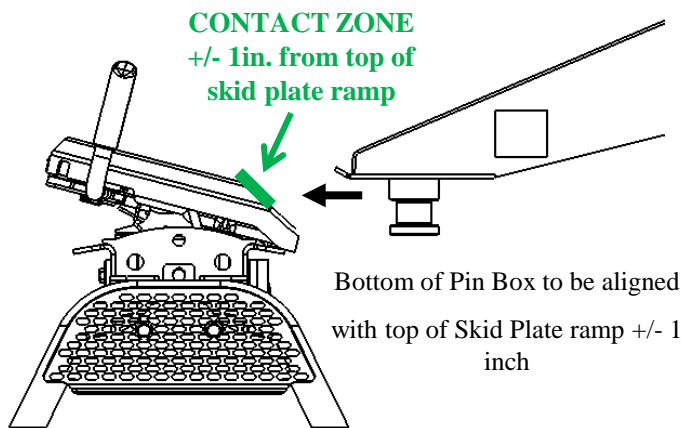

FIG. 12
- C. Pin box is at correct height for hitching (fig. 12 & 13).